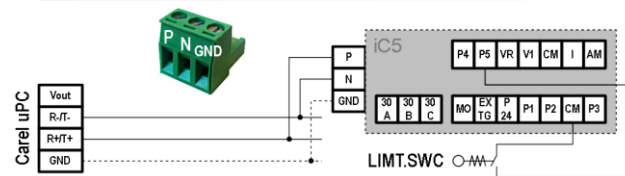

Figure 3
- Wire the communication terminal of the iCS inverter according to the **Figure 3**